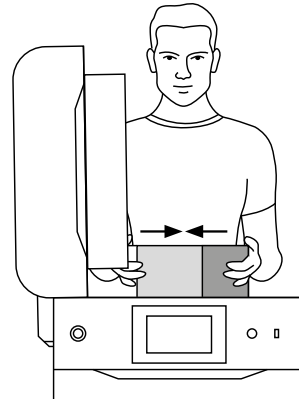

Fig. 8.4 Closing the IO BOX.
9. Close the IO BOX (fig. 8.4).